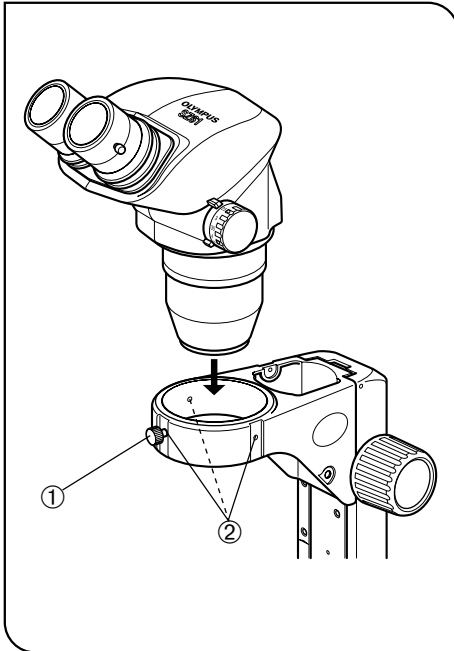

Fig. 12
1 Installing the Microscope Body (Fig. 12)
(Fig. 12)
- Loosen the body clamping knob ① and insert the microscope body gently.
- Ⓞ The body clamping knob ① can be attached to any of the three positions ② around the arm. After installation, attach the knob to a position so that the knob does not come in the way of the light source, etc.
- Ⓞ If you always perform observation from the side of the focus adjustment knobs, the microscope body can be installed in the opposite orientation to that shown in Fig. 12 (at the 180° rotated position).